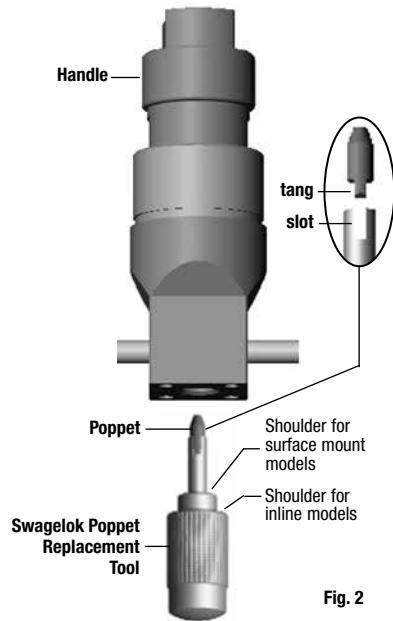

Fig. 2
4. Insert the **Swagelok poppet replacement tool**, **MS-TOOL-HF3**, into the bottom of the regulator and unthread the **poppet**, **Fig. 2**. Discard the old poppet.
5. Place a new **poppet** into the **poppet replacement tool**, **Fig. 2**. The **tang** on the poppet must engage the **slot** in the tool.
6. Thread the **poppet** into the bottom of the regulator. When the **shoulder** on the poppet replacement tool contacts the bottom of the regulator, the poppet is at the proper depth. **Do not overtighten**. Remove the tool, **Fig. 2**.